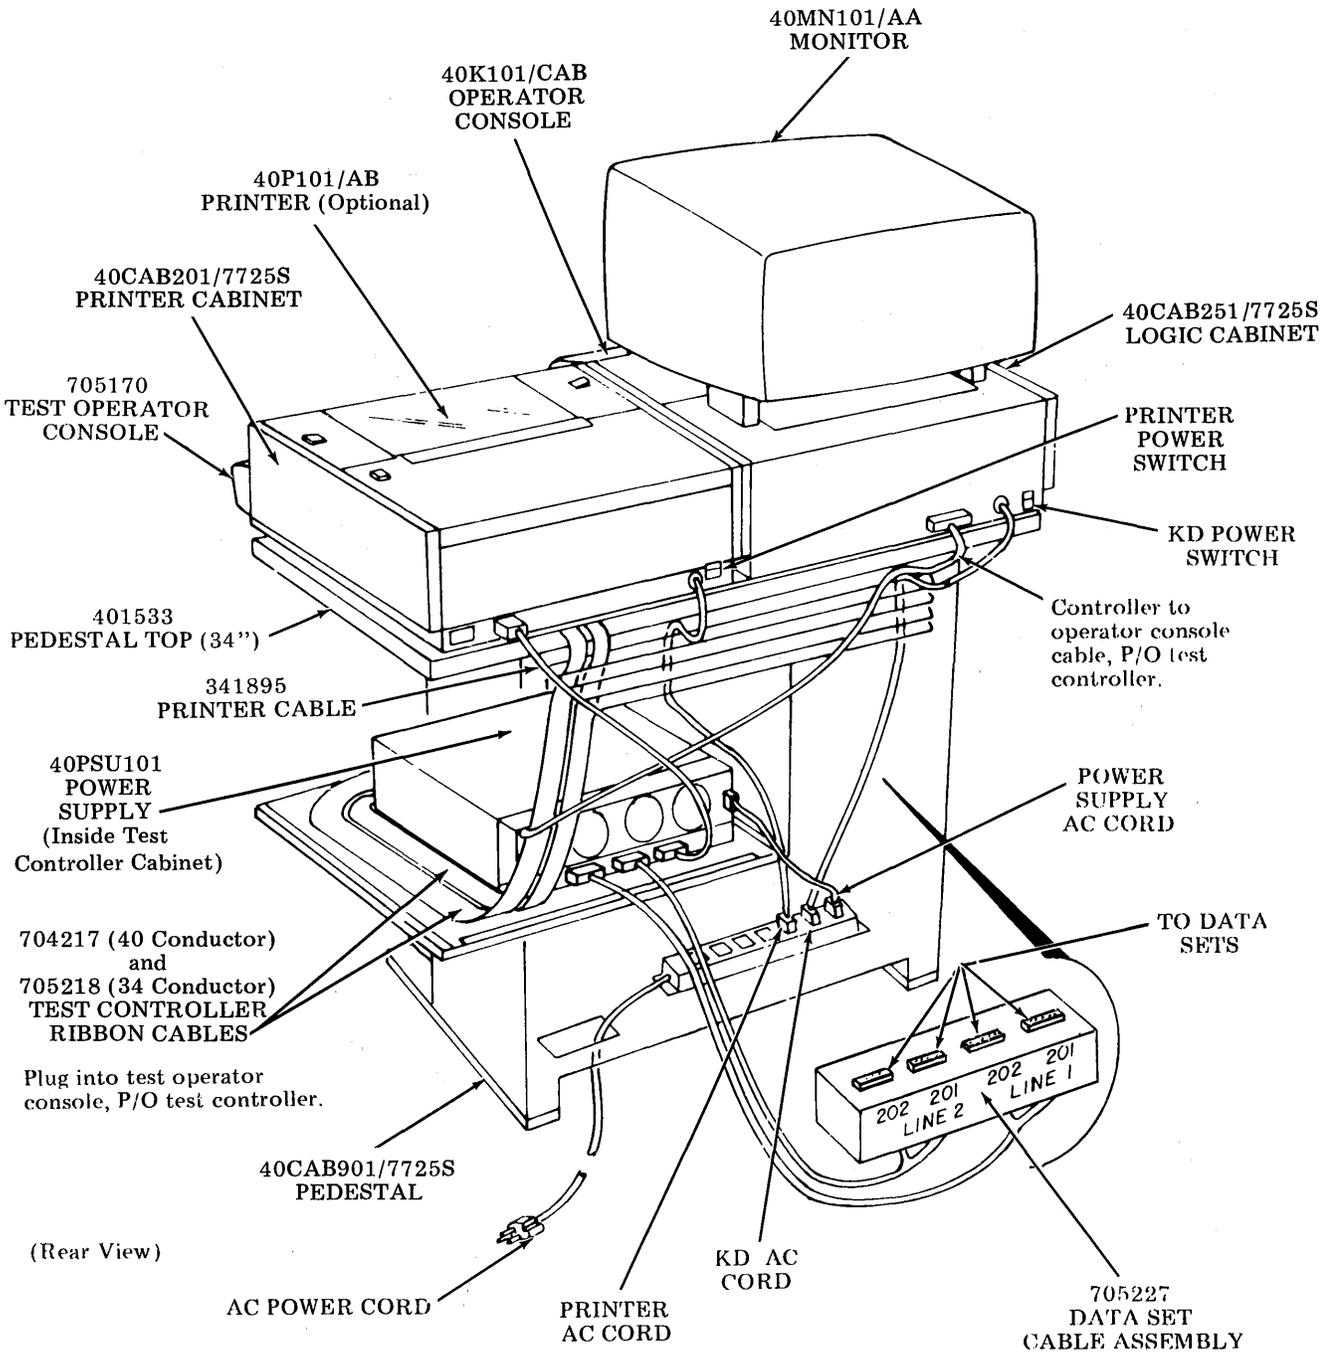

Fig. 8
C. DATASPEED Test Set (Fig. 8)
705227 Cable Assembly, Data Set (Fig. 8)